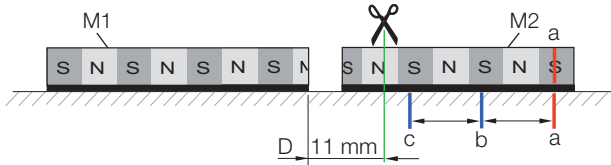

Fig. 4-12: Cut at 11 mm
- Cut tape M2 so that the resulting distance D between both tapes is 11 or 21 mm (width of 1 pole pair + 1 mm for fine positioning). The gap between the two tape ends indicates where to cut (Fig. 4-12).